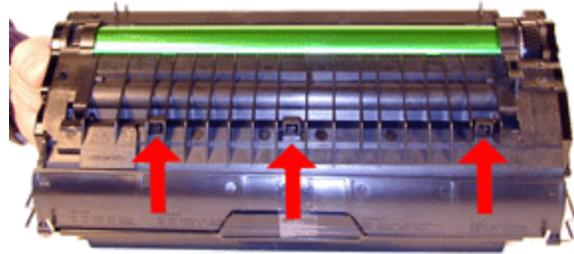

FIGURE 34
30. Install the toner hopper onto the rest of the cartridge. Make sure that the gears on the right side fit into their slots. Snap the hopper down so that all the tabs snap into place (Three front, three back). See Figure 34